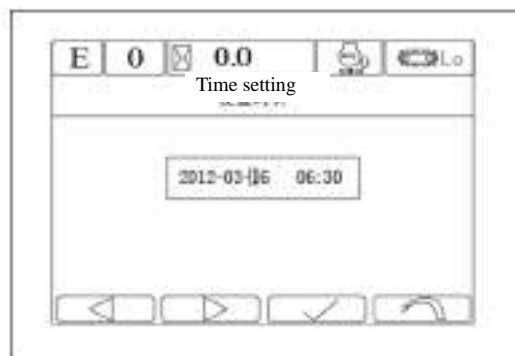

Figure 3-30 Time setting interface
c) After entering into the time settings interface, enter the exact time through F1-F4 functional keys, the interface is shown in Figure 3-30